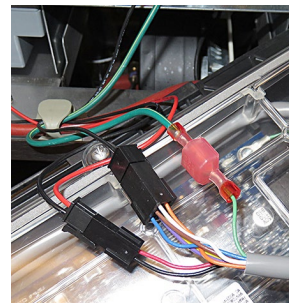

Figure 73
73. Reconnect the controller ground wire, speaker, and ID cable (if applicable) (see Figure 73).